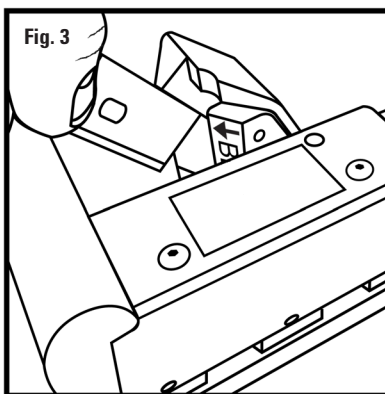

Fig. 4
1. Determine desired depth setting using Blade Depth Settings chart. (Fig. 4)